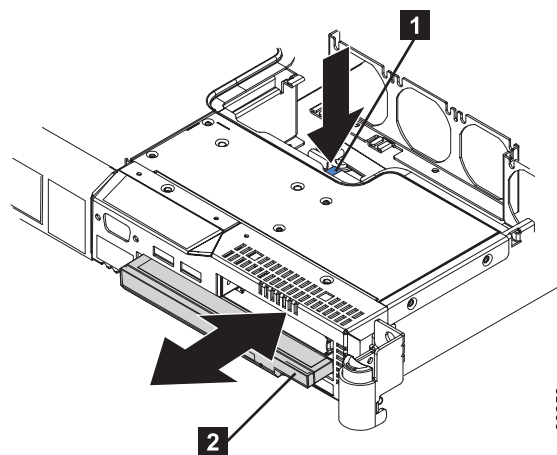

Figure 163. Releasing and sliding out the dummy CD/DVD drive
3. Release the dummy CD/DVD drive **2** by pressing the release button **1** and sliding the drive out approximately 2 cm (1 in), as shown in Figure 163. It is possible to push the drive from the back to start it moving. Do not remove the drive from the casing.